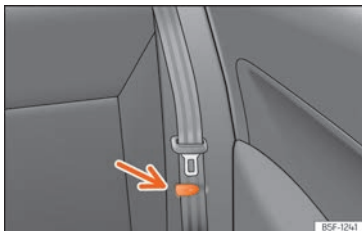

Fig. 117 Rear seat: clip to hold the seatbelt in place.
- Place the side seat belts in the trim clip »» **Fig. 117**.